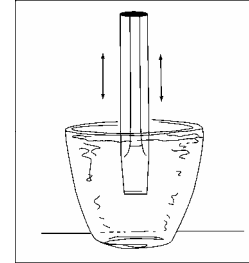

Figure 4.3
4. Cool the hammer in water until the steam stops. As you are cooling the hammer, move it slightly up and down in the water to avoid causing cracks at the waterline, which can result from uneven cooling. See Figure 4.3.